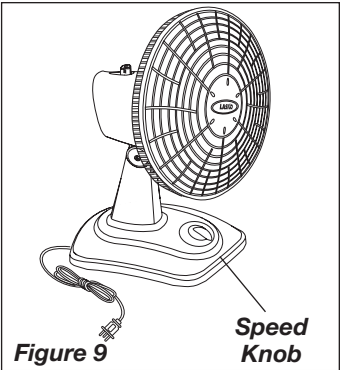

Figure 9
**SPEED:** Control fan speed with Speed Knob at rear of motor. (Figure 9)